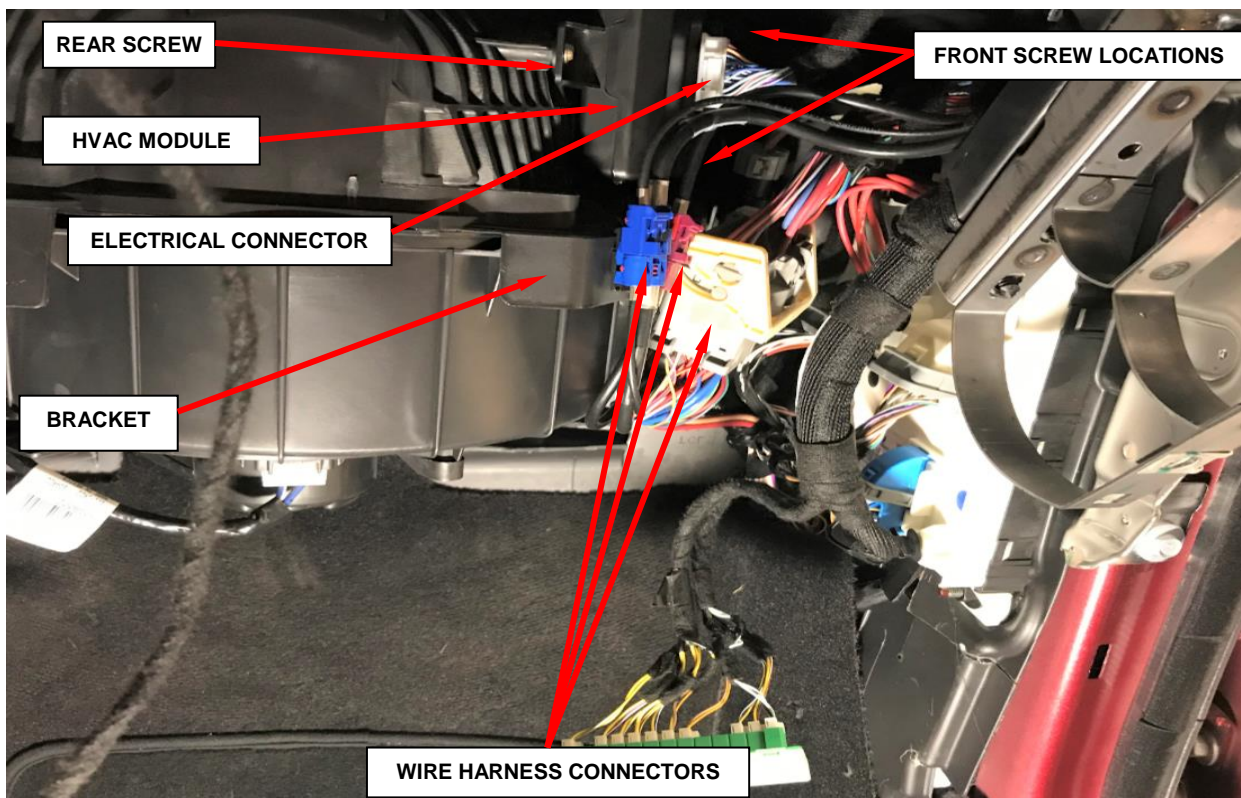

Figure 5 – HVAC Module
7. Disconnect the electrical connector from the HVAC module, located on the air inlet housing (Figure 5).
8. Release the wire harness connectors from the bracket (Figure 5).
9. Loosen the two screws that secure the front of the HVAC module to the air inlet housing (Figure 5).
10. Remove the one screw that secures the rear of the HVAC module to the air inlet housing (Figure 5).